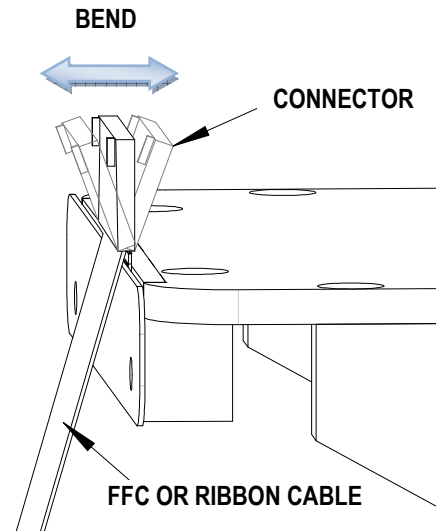

Figure 2-12
7. Break off the carrier strips by inserting them in the slot in the front of the cable support (See Figure 2-12) and bending back and forth once or twice.